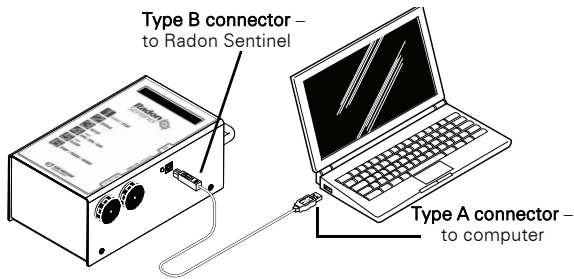

Figure 7. USB Connectors
- 1** Connect the USB type A connector (Figure 7) to the computer or USB hub.